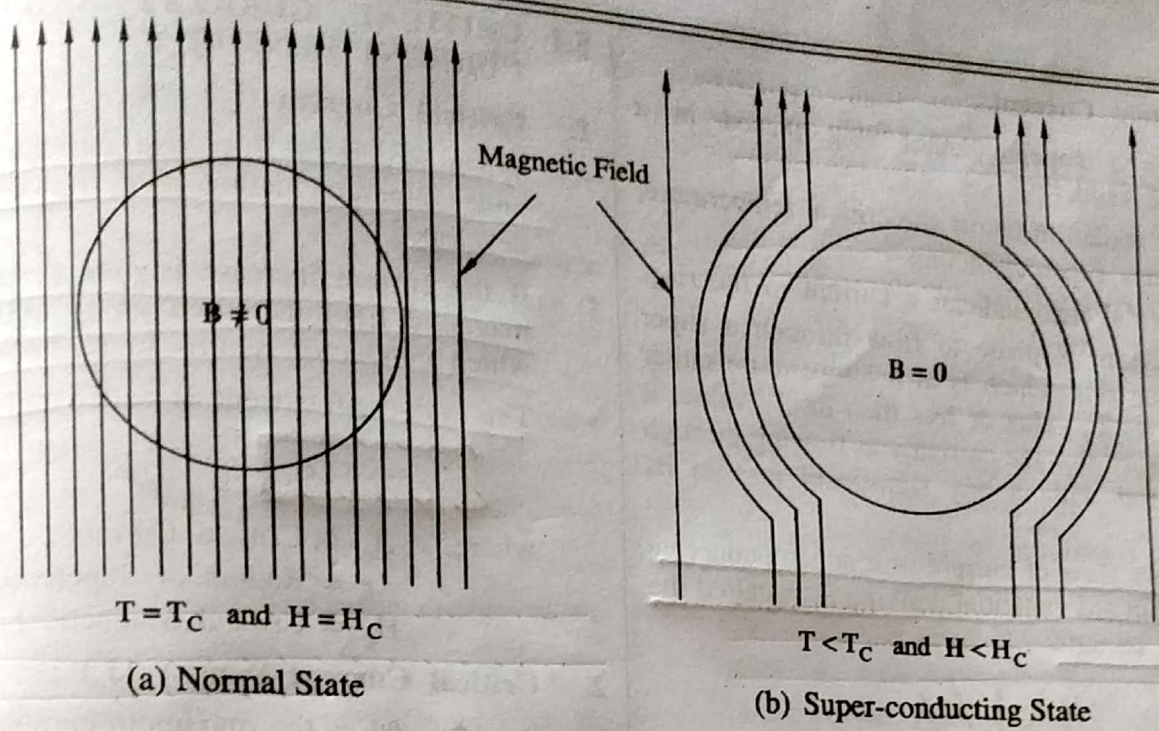

FIG. 5.3
- When the superconducting material is placed in a magnetic field ($H > H_c$) at room temperature, the magnetic field is found to penetrate normally throughout the material Fig. 5.3(a).
- However, if the temperature is lowered below T_c and with $H < H_c$ the material is found to reject all the magnetic field penetrating through it is shown in Fig. 5.3(b).